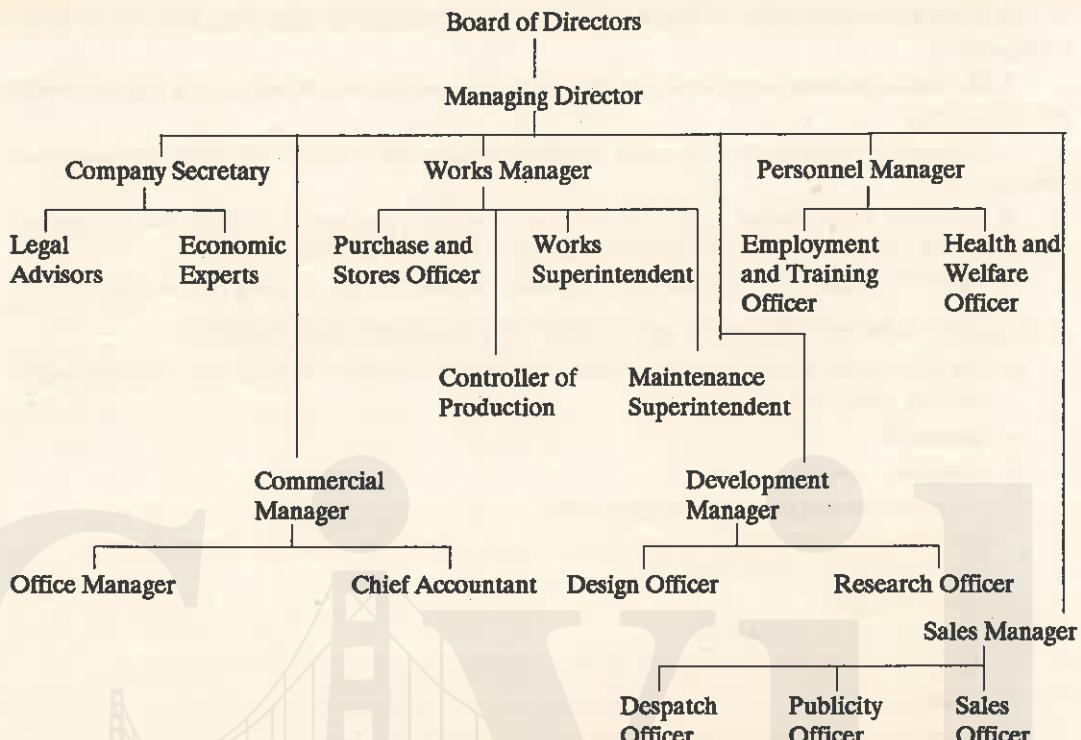

Fig. 15.2. Management Structure (Chart).
- Fig 15.2 Shows the management structure (chart) for a small to medium size company (manufacturing industry).